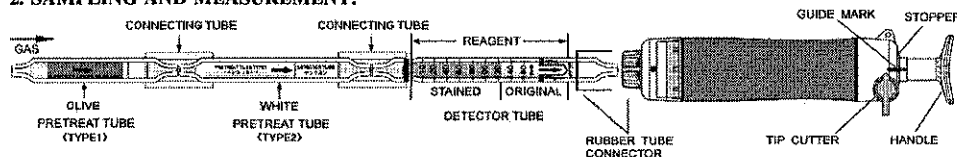

Fig.1
- ① Break both ends of the detector tube and pretreat tubes (Type 1, Type 2), and connect each end of the detector tube and pretreat tubes with connecting tube as shown in Fig.1.
- ② Insert the detector tube into the aspirating pump securely as shown in Fig. 1. (Arrow marks on the detector tube and pretreat tubes shall point to the pump.)
- ③ Align the guide marks on the shaft and stopper of the aspirating pump.
- ④ Pull the pump handle at a full stroke until it locks and wait for 2 minutes or until the completion of sampling is confirmed with the flow indicator of the pump (See descriptions about the flow indicator in the instruction manual of the pump).
- ⑤ On completion of sampling, read the scale at the maximum point of the stained layer.